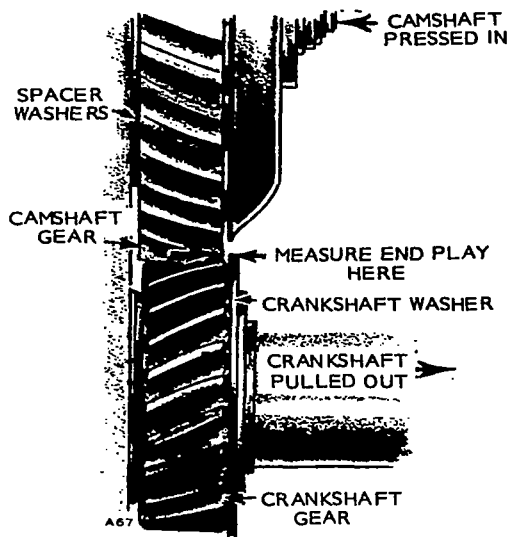

FIGURE 62. CAMSHAFT ENDPLAY
3. Slide thrust washer onto shaft. Measure camshaft end play; it should be 0.007 inch to 0.039 inch (0.178 to 0.991 mm). See Figure 62.